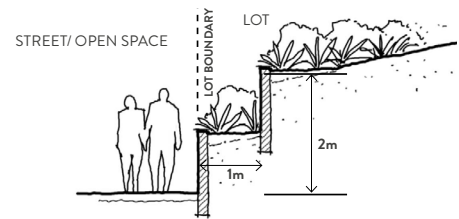

Figure 5 | Retaining Wall: Street/ Open Space Interface [Alternate]
- Staggered retaining walls visible from public spaces may be permitted up to a maximum height of 2.0m, provided they are designed in accordance with Figure 5. Landscaping between each portion of staggered wall is required.